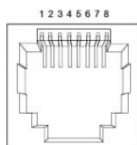

Figure 4
1. Insert the top of the DIN-Rail on to the track as shown below in Figure 4.